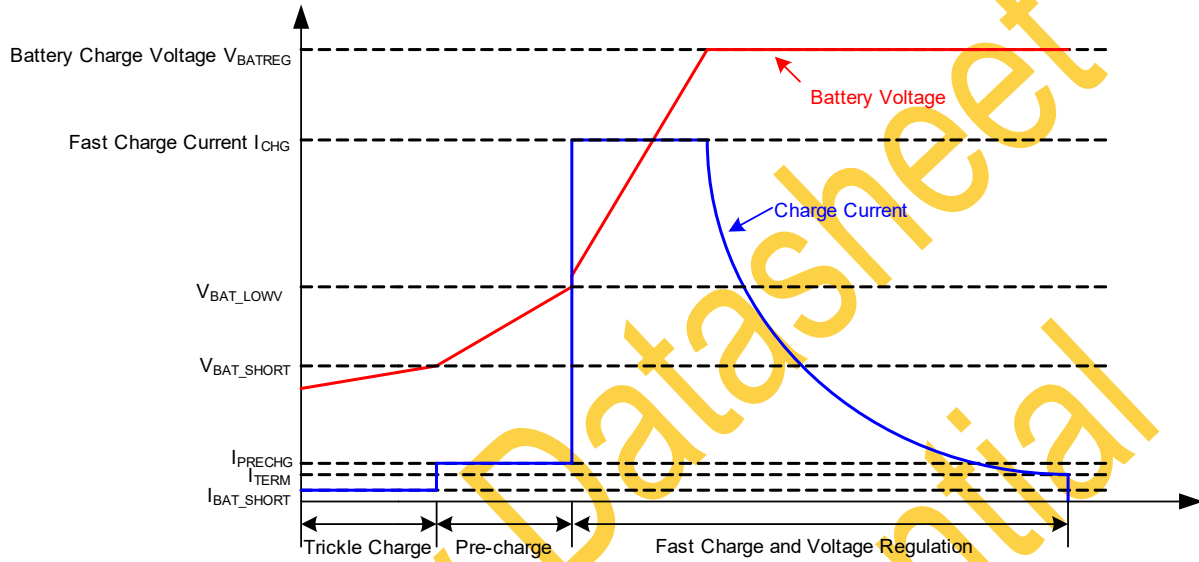

Figure 9. Battery Charge Profile
In Charge Mode as shown in the table of Device Functional Mode, the devices charge the battery in four sub-charge-modes: trickle charge, pre-charge, Constant Current (CC) charge and Constant Voltage (CV) charge as shown in Figure 9. If the battery voltage falls below $V_{BAT_SHORT_FALL}$, the battery charge battery with trickle charge current I_{BAT_SHORT} , when the battery voltage rises above $V_{BAT_SHORT_RISE}$ and below $V_{BAT_LOWV_RISE}$, the charger charges battery in precharge mode with charge current at I_{PRECHG} . Fast charge starts once battery voltage rises above $V_{BAT_LOWV_RISE}$. When battery voltage is close to battery charge voltage V_{BATREG} , the charger goes into CV mode and charge current starts to decreases. When charge current decreases below termination current I_{TERM} , charge is terminated and charge cycle ends. Following charge termination, if the battery voltage follows below $(V_{BATREG} - V_{RECHG_HYS})$, a new charge cycle restarts.